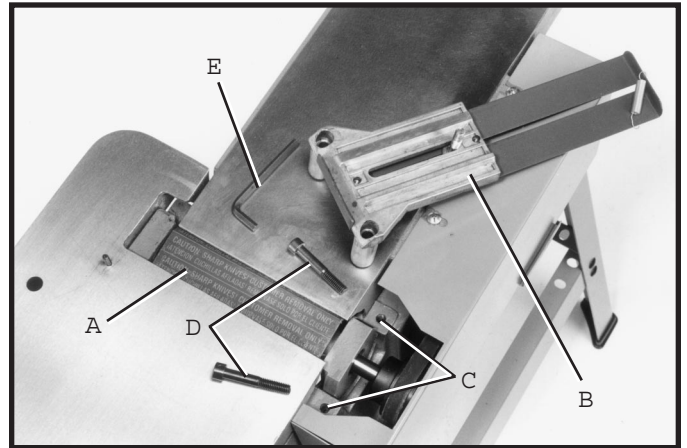

Fig. 13
MAKE CERTAIN THE MACHINE IS DISCONNECTED FROM THE POWER SOURCE AND THAT KNIFE GUARD (A) FIG. 13, IS POSITIONED OVER THE CUTTERHEAD.
1. Position fence slide bracket (B) Fig. 13, over the two threaded holes (C) at the rear of the jointer and fasten the support bracket with two cap screws (D) and supplied wrench (E).